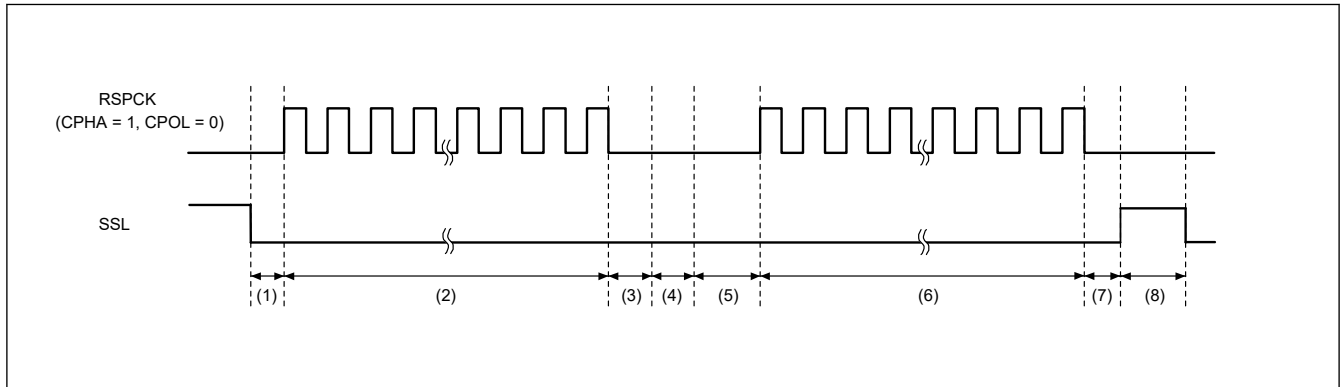

Figure 30.46 Example of burst transfer operation using the SSLKP bit (BFDS = 0)
Figure 30.46 shows an example of an SSLni signal operation for a burst transfer that is implemented using the SPCMD0 and SPCMD1 register settings. This section describes SPI operations (1) to (8) shown in Figure 30.46.
If the SSLni signal output settings in the SPCMDm register where 1 is assigned to the SSLKP bit are different from the SSLni signal output settings in the SPCMDm register to be used in the next transfer, the SPI switches the SSLni signal status to SSLni signal assertion as shown in (5) in Figure 30.46. This corresponds to the command for the next transfer.